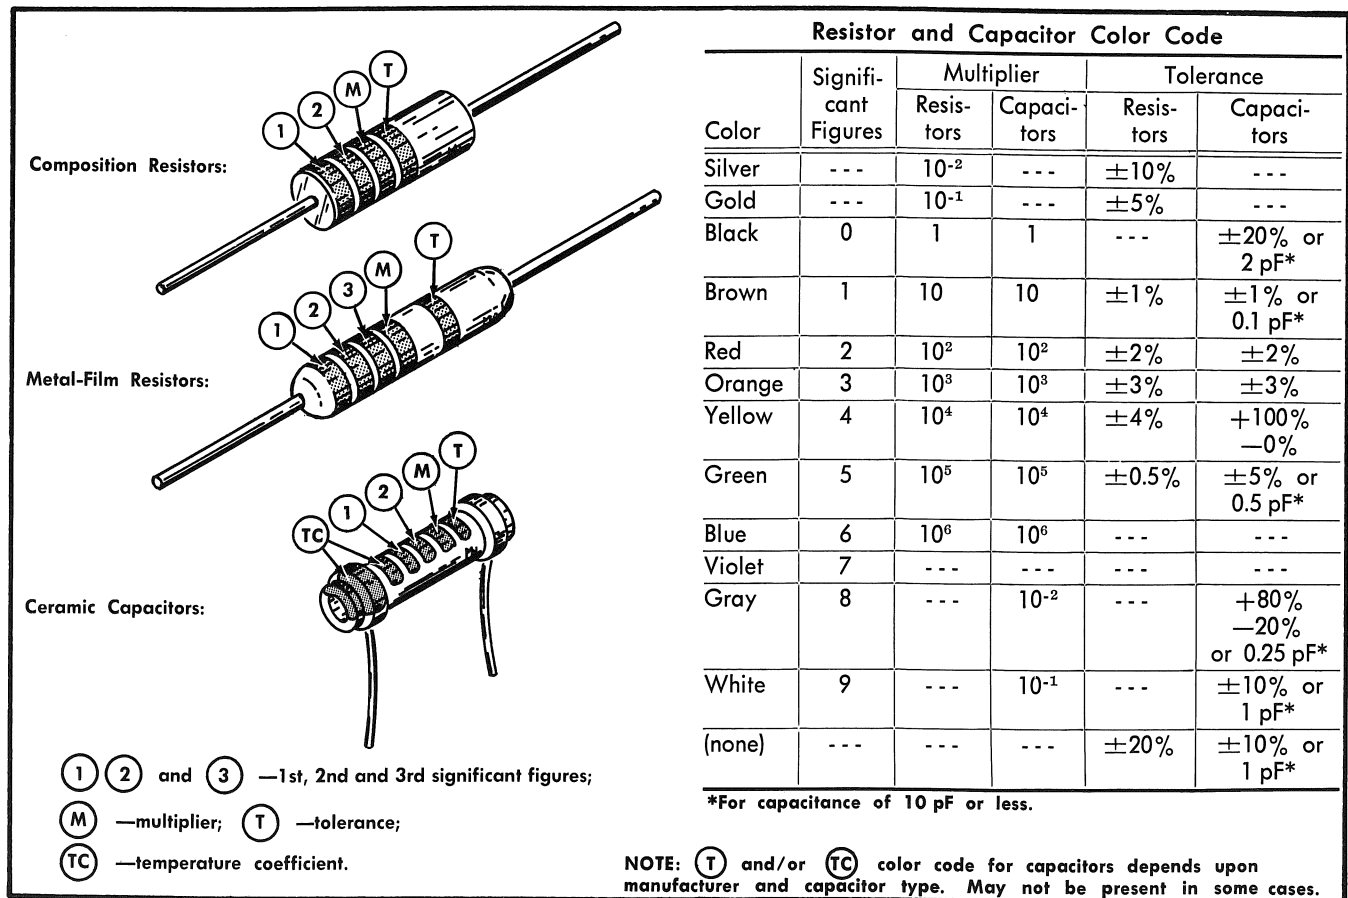

Fig. 4-1. Standard EIA color coding for resistors and capacitors.
In addition to the composition resistors, some metal-film resistors are used in these instruments. Nearly all resistors are color-coded for resistance value and tolerance using EIA color code (a metal-film resistor may have the value printed on the body). Composition resistors have four stripes which represent two significant figures, the multiplier and the tolerance value (see Fig. 4-1). Metal-film resistors have five stripes which represent three significant figures, the multiplier and the tolerance value.
All insulated conductors in these instruments are color-coded as noted in Fig. 4-1.
1. After the Pulser has been removed from the unit, loosen the knurled nut on the GR connector. This is similar to Fig. 4-1. This frees the shield fingers from the notches in the connector sleeve.